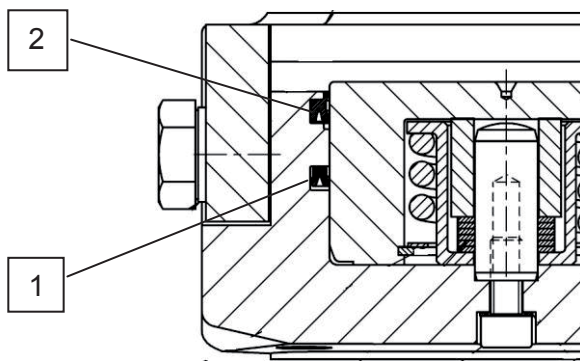
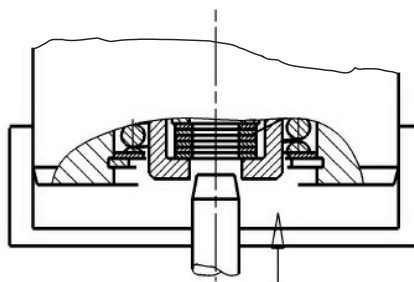

Fig. 6.1
Fig. 6.2
- Remove the brake caliper-halves. Remove the 4 cylinder screws (11). Note that the cylinder screws are slightly pre-tensed by the compression springs (12). Connect a hydraulic fluid line to each of the brake caliper-halves and connect a hydraulic hand pump to the second hydraulic fluid connection. Hold or clamp the brake housing (5) firmly in place. Push the brake piston (4) out with the aid of the hand pump. Make sure that the brake pistons is pressed evenly out of the brake caliper housing (5).
- Remove the old seal (1) and the old double wiper (2) and install the new seal and the new double wiper in the brake caliper housing (5). Observe the correct installation position for the seal as shown in Fig.6.1. The incorporation should be occur by hand to ensure that the sealing edge is not damaged. The seal and the doble wiper can be inserted more easily be bending it into a kidney shape and laying it into the groove. Oiling the seal with a light coat of Molycotec prior to assembly. Centering befor installing the piston (4) the gripping rings in the piston to bore or outside diameter of the piston with a conically turned pin (see Fig 6.2). Push the piston centric with a press or beat with a plastic hammer into the cylinder bore to the stop point.